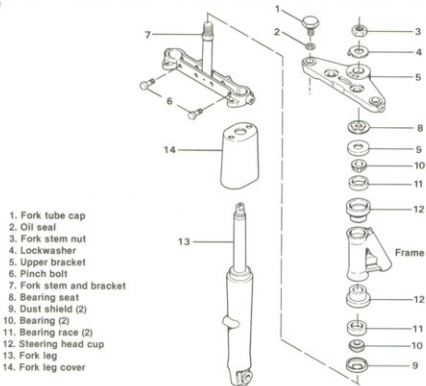

Figure 2-71. Non-adjustable Fork and Bracket
Removal (Figures 2-71, 2-72)
4. **Non-Adjustable Forks.** See Figure 2-71. Remove the fork tube caps (1) and oil seals (2). Loosen the lower bracket pinch bolts (6) and pull the fork sides from the brackets.
Installation (Figures 2-71, 2-72)
2. **Non-Adjustable Forks.** See Figure 2-71. Install the fork tube caps (1) and oil seals (2).
NON-ADJUSTABLE FORK STEM AND BRACKET (Figure 2-71)